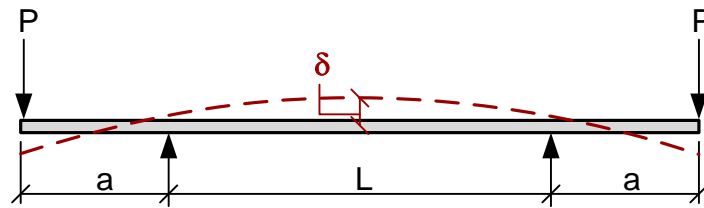

Figure 4: Load condition case 2
4. Apply two overhanging loads P ($a = 250$ mm) and measure the mid-span deflection for different values of P (loading case 2 in Fig. 4). Record readings in Table 2.
Table 2: Readings from load condition case 2 (Fig. 4)